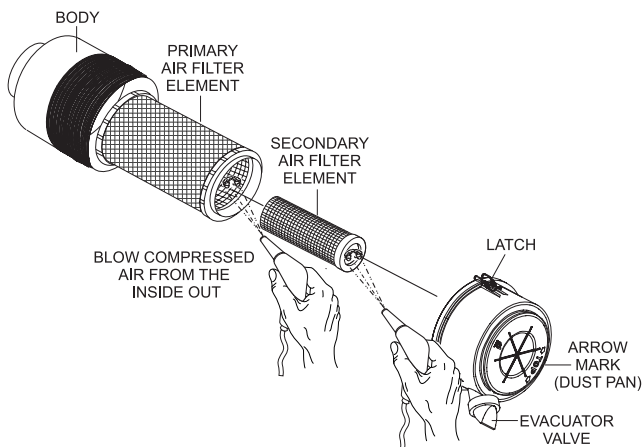

Figure 62. Engine Air Cleaner
The air cleaner (Figure 62) provided with this Isuzu diesel engine is equipped with a replaceable, high-density, paper air filter element. The air cleaner is also equipped with an inner (secondary) element that is used as a backup filter should the primary element become damaged. Check the air cleaner daily or before starting the engine. Replace the air cleaner as needed.
1. Release the latches that secure the cover to the air cleaner body (Figure 62).
2. Remove the **air cleaner cover** (Figure 62) and set it aside.
3. Remove both the primary and secondary air cleaner elements (Figure 62).
5. To clean the **primary element** (paper air filter) as shown in Figure 62, tap the filter element several times on a hard surface to remove dirt, or blow compressed air, not to exceed 30 psi (207 kPa, 2.1 kgf/cm²), through the filter element from the inside out.
8. Clean the inside of the **air cleaner body** (Figure 62).